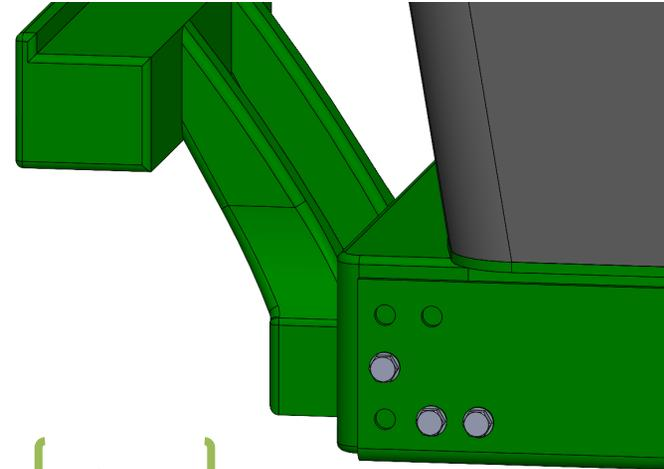

Figure 3
Refer to Figures 3—5
3. Remove the three bolts in the weight bracket (Shown in Figure 3).